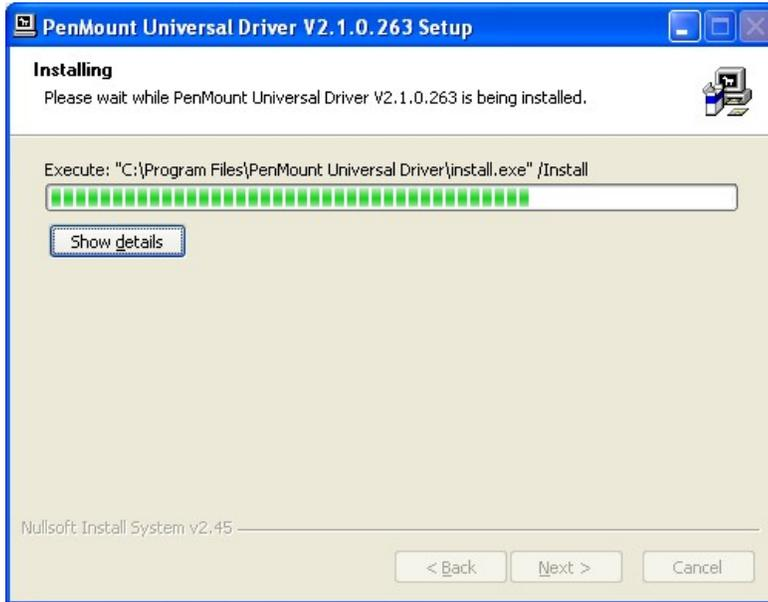

Figure 7-20: Touchscreen Driver Installation Screen
Step 10: The **Install** screen appears and displays the progress of the installation (**Figure 7-20**).